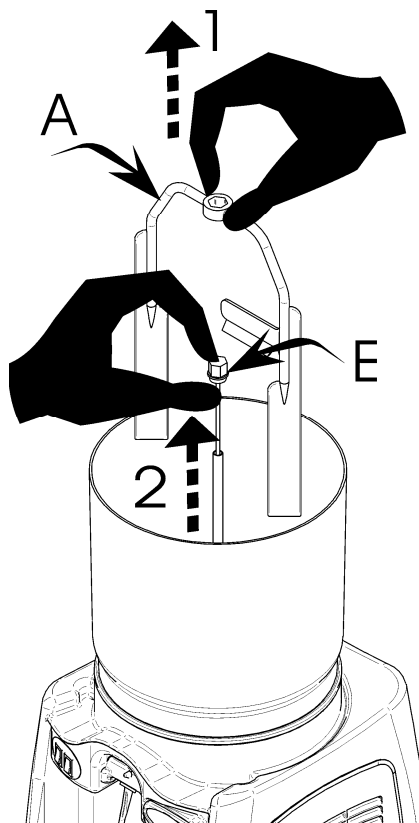

Figure 7
4°.- Pull out (1) the mixer paddles (A), throwing of them up, take out (2) the shovel pole (E) of the central tube throwing up (Fig.7).